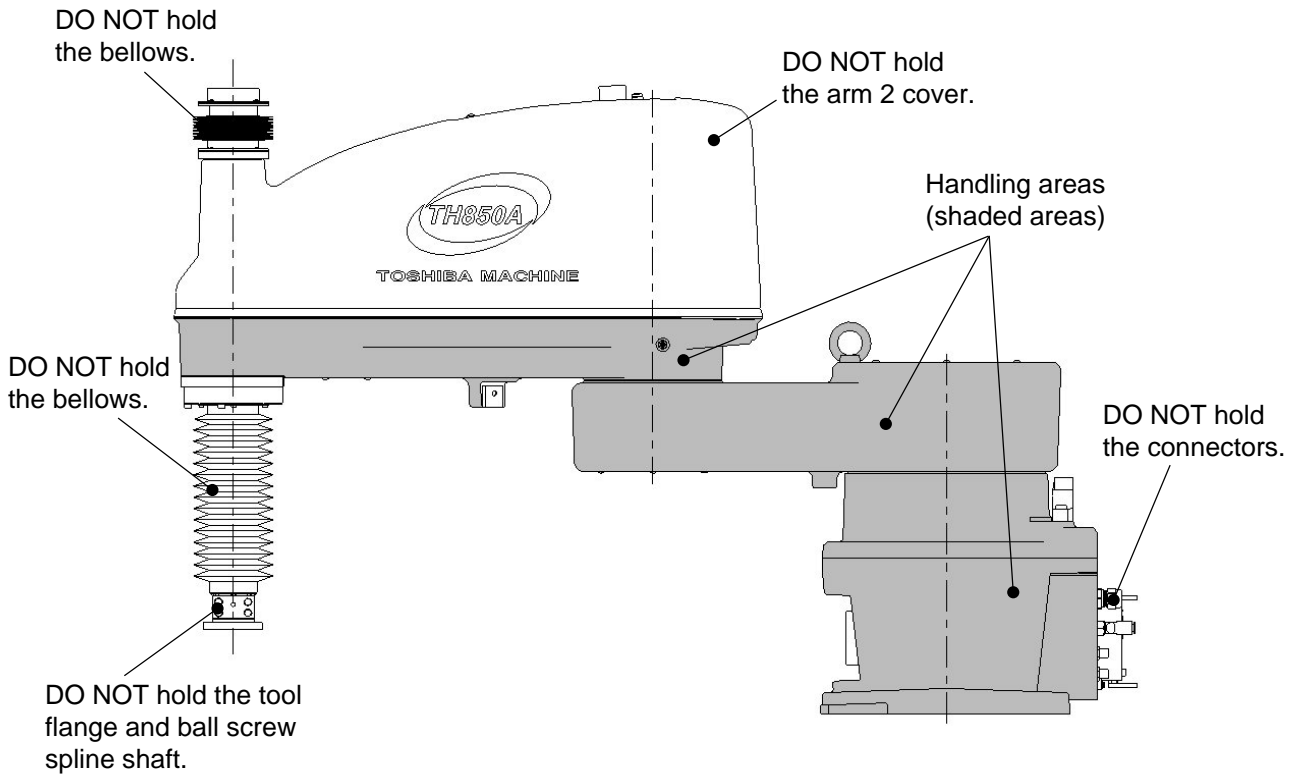

Fig. 2.3 Robot handling prohibited areas
- When lifting up the robot by workers, hold the shaded locations by hands, as shown in Fig. 2.3. If the ball screw spline shaft is held by hands, an unusually large force is exerted, resulting in a malfunction.
- The work should always be performed by two (2) or more workers.